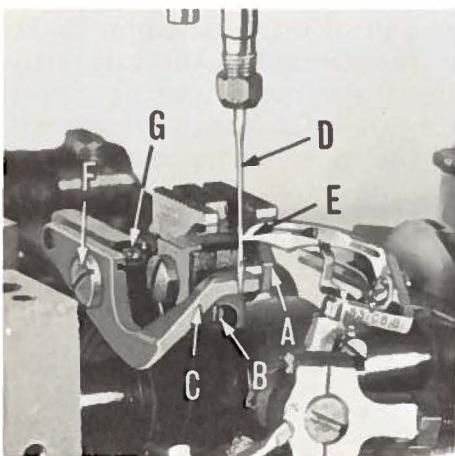

Fig. 10
If feed dog teeth are not parallel with the throat plate, loosen nut (A, Fig. 10) and turn screw (B) clockwise to lower the front teeth, and counterclockwise to raise the front teeth. Retighten nut when feed dog is set properly.
Set the needle guard (C, Fig. 10) horizontally so that it barely contacts the needle (D). It should be set as low as possible, yet have its vertical face remain in contact with the needle until the point of the looper (E), moving to the left, is even with the needle and the latter is ascending on the left side. To move needle guard forward or backward, merely loosen screw (F), move needle guard as required, and retighten screw. To raise or lower needle guard, loosen screw (F), and turn screw (G) clockwise to lower needle guard, and counterclockwise to raise needle guard. Retighten screw (F) after guard is set properly.